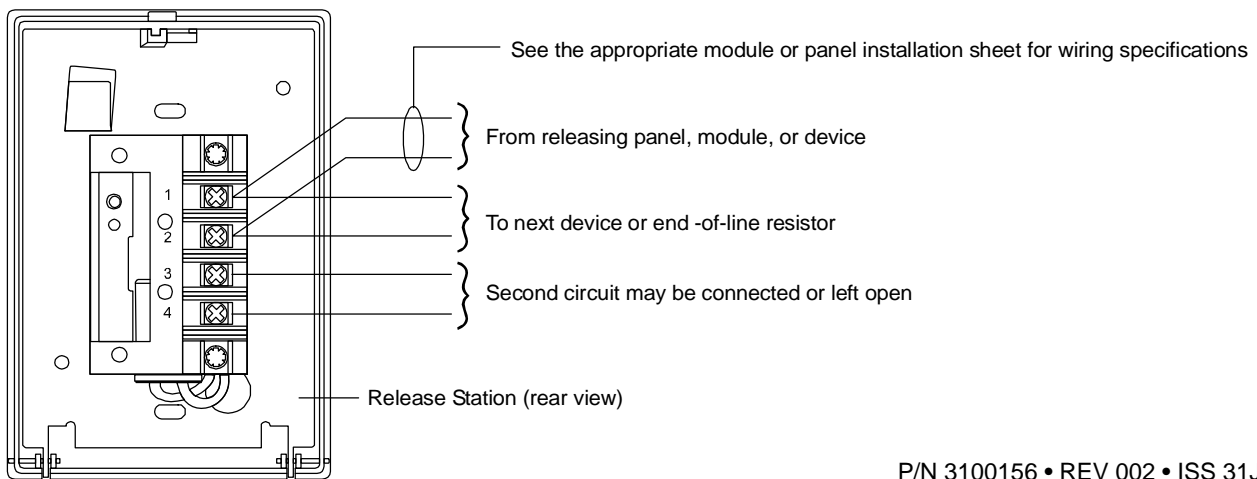

Figure 5: Wiring terminals as seen from rear view
3. Make the wiring connections shown in the wiring diagram (Figure 5).